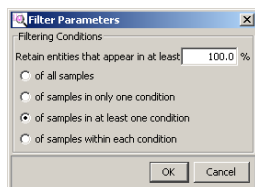

Figure 48 Filter Parameters dialog box
- 2 Click **Re-run Filter** to enter parameters in the **Filter Parameters** dialog box (Figure 48 on page 105).